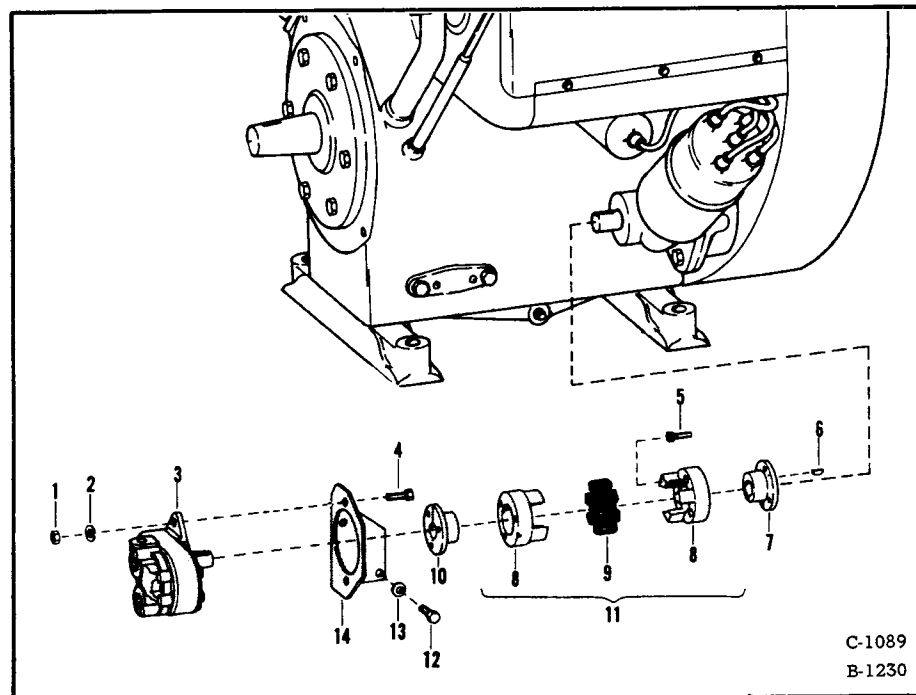

Fig. 161 Aligning Hydraulic Pump to Engine Drive Shaft
1. Insert a Woodruff key (Figure 161, Item 6) into the pump drive shaft on the engine (at the distributor).